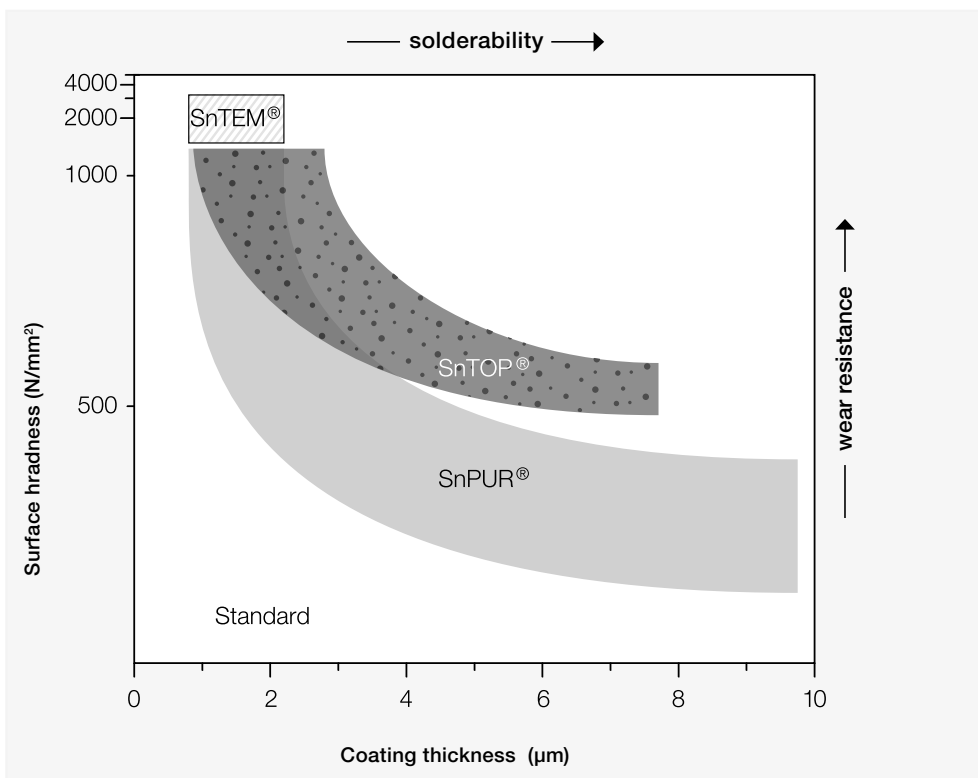

Fig. 4: Universal hardness HU in dependence of layer type and layer thickness.
- | Good wear resistance is achieved by using the SnTEM® coating, with high surface hardness, see Fig. 4.